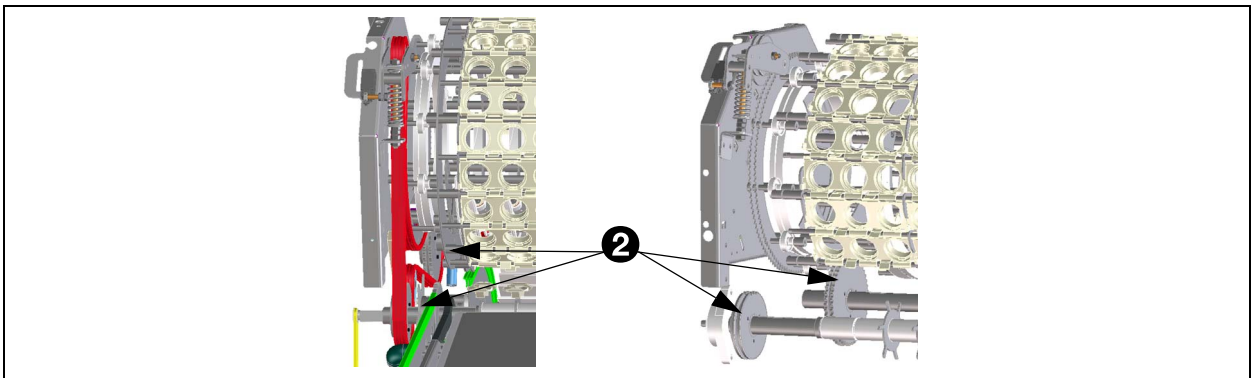

Fig. 76 - Chain-wheels MultiDrum™
1. There are three bolts on each chain-wheel (2). See fig. 76.